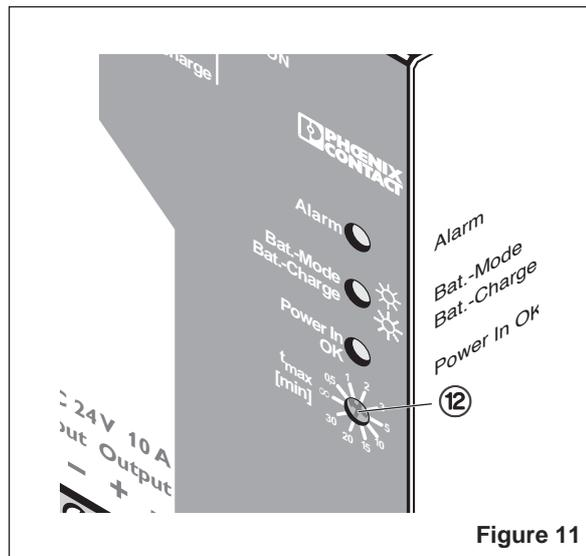

Figure 11
**6.1 Buffer Time Setting (Figure 11)**